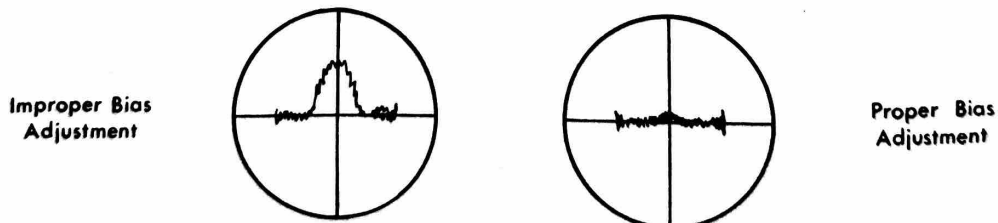

Figure 1
4. While observing the resultant distortion waveform, adjust the left channel bias pot VR601 so that the crossover distortion is at the point of being eliminated (class "AB"). NOTE: Class "A" operation (continued CW rotation) causes the output transistors to draw excessive current and consequently overheat. Refer to Figure 1 below.